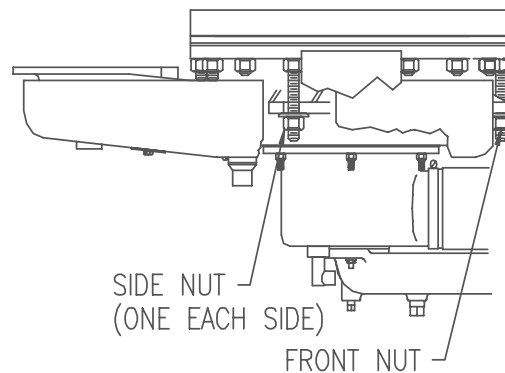

Figure 7.8
21. Loosen the three 1-1/16" nuts that hold the manifold. Remove the two side nuts. **DO NOT REMOVE THE FRONT NUT** (See Fig. 7.8).